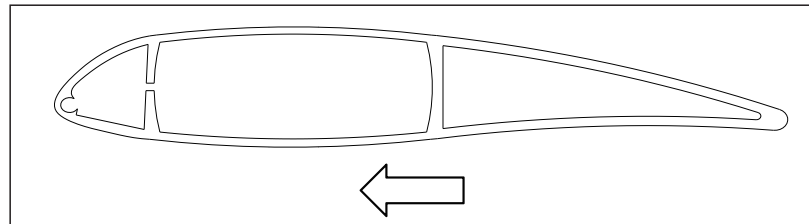

fig4.7 The right direction of rotation
Insert the empennage to each airfoil blade and fix it by using bolt.(Fig4.7)
4.7.1 The fan blade pin has been installed onto the fan wheel hub, just insert the airfoil blade onto the blade pin and fix it by bolts. The correct direction of blade installation should be the blade upwind surface (thick, round part of the blade) the highest, blade leeward surface gradually downward. (fig4.7)